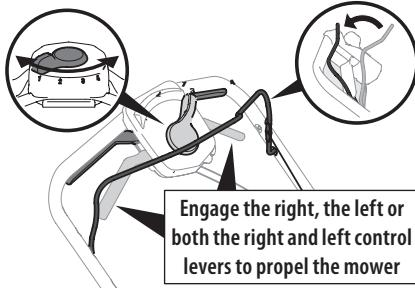

Figure 35
- Once the engine is running, and while continuing to hold the blade control down, squeeze either (or both) drive controls against the upper handle to propel mower (Figure 35).